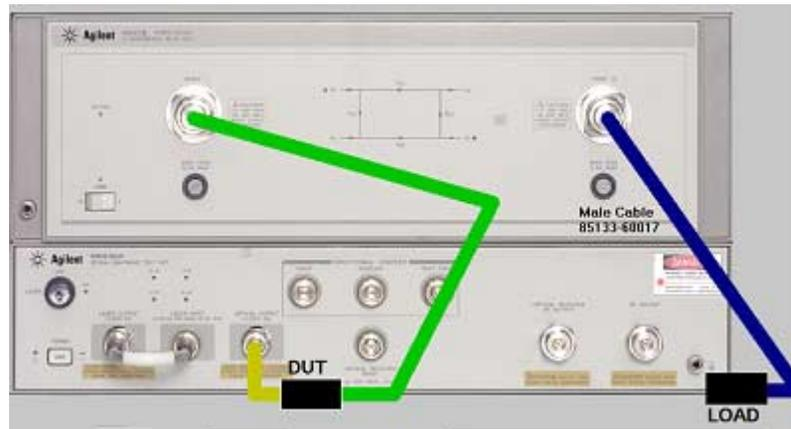

Figure 4-20. Connections for O/E Response and Match Calibration (Std10), and a Device Under Test after an O/E Response and Match Calibration
Pre-Conditions: OERESPNMATCH_STD1, OERESPNMATCH_STD2Open, OERESPNMATCH_STD3Short, OERESPNMATCH_STD4Load, OERESPNMATCH_STD5Open, OERESPNMATCH_STD6Short, OERESPNMATCH_STD7Load, OERESPNMATCH_STD8 and OERESPNMATCH_STD9have been performed. The following connections in Figure 4-20 have been made on the instrument.
- 2** Connect a device under test, as shown in Figure 4-20.
- 6** Connect a new device under test, as shown in Figure 4-20.
Measurement Connections in Figure 4-20 are for a device under test, after performing an O/E response and match calibration.